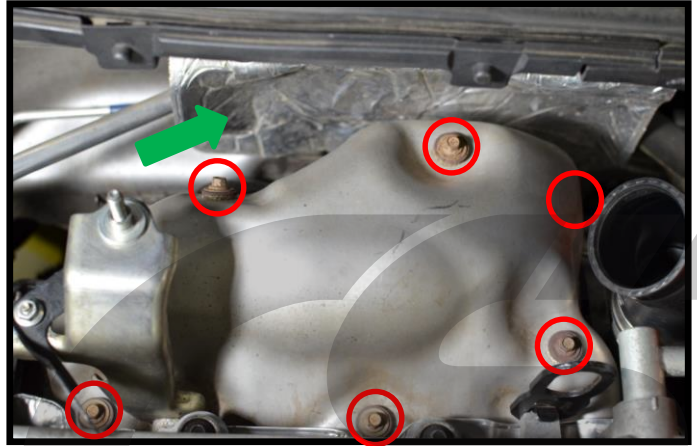

Figure 5a
- a) Remove thin silver firewall heat shield shown with the **green arrow** in **Figure 5a**. There are three plastic clips that unscrew.
- b) Remove the six 8mm bolts **circled in red** in **Figure 5a**, then remove the heat shield.